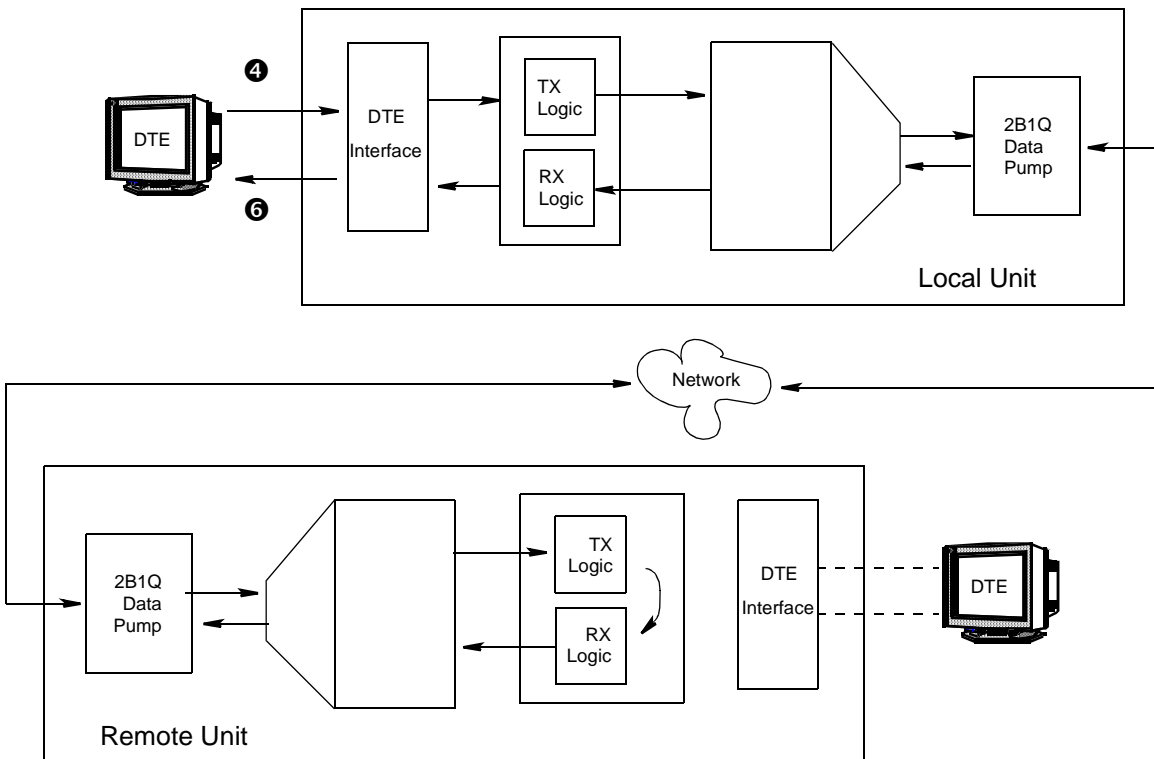

Figure 3-2 Remote Loopback Test
Remote Loopback (RL) checks the performance of the local and remote units, the local DTE, and the communications path through the network (see Figure 3-2). When you initiate this test, the local unit transmits a loopback code that causes the remote unit to go into a Digital Loopback (DL) condition.